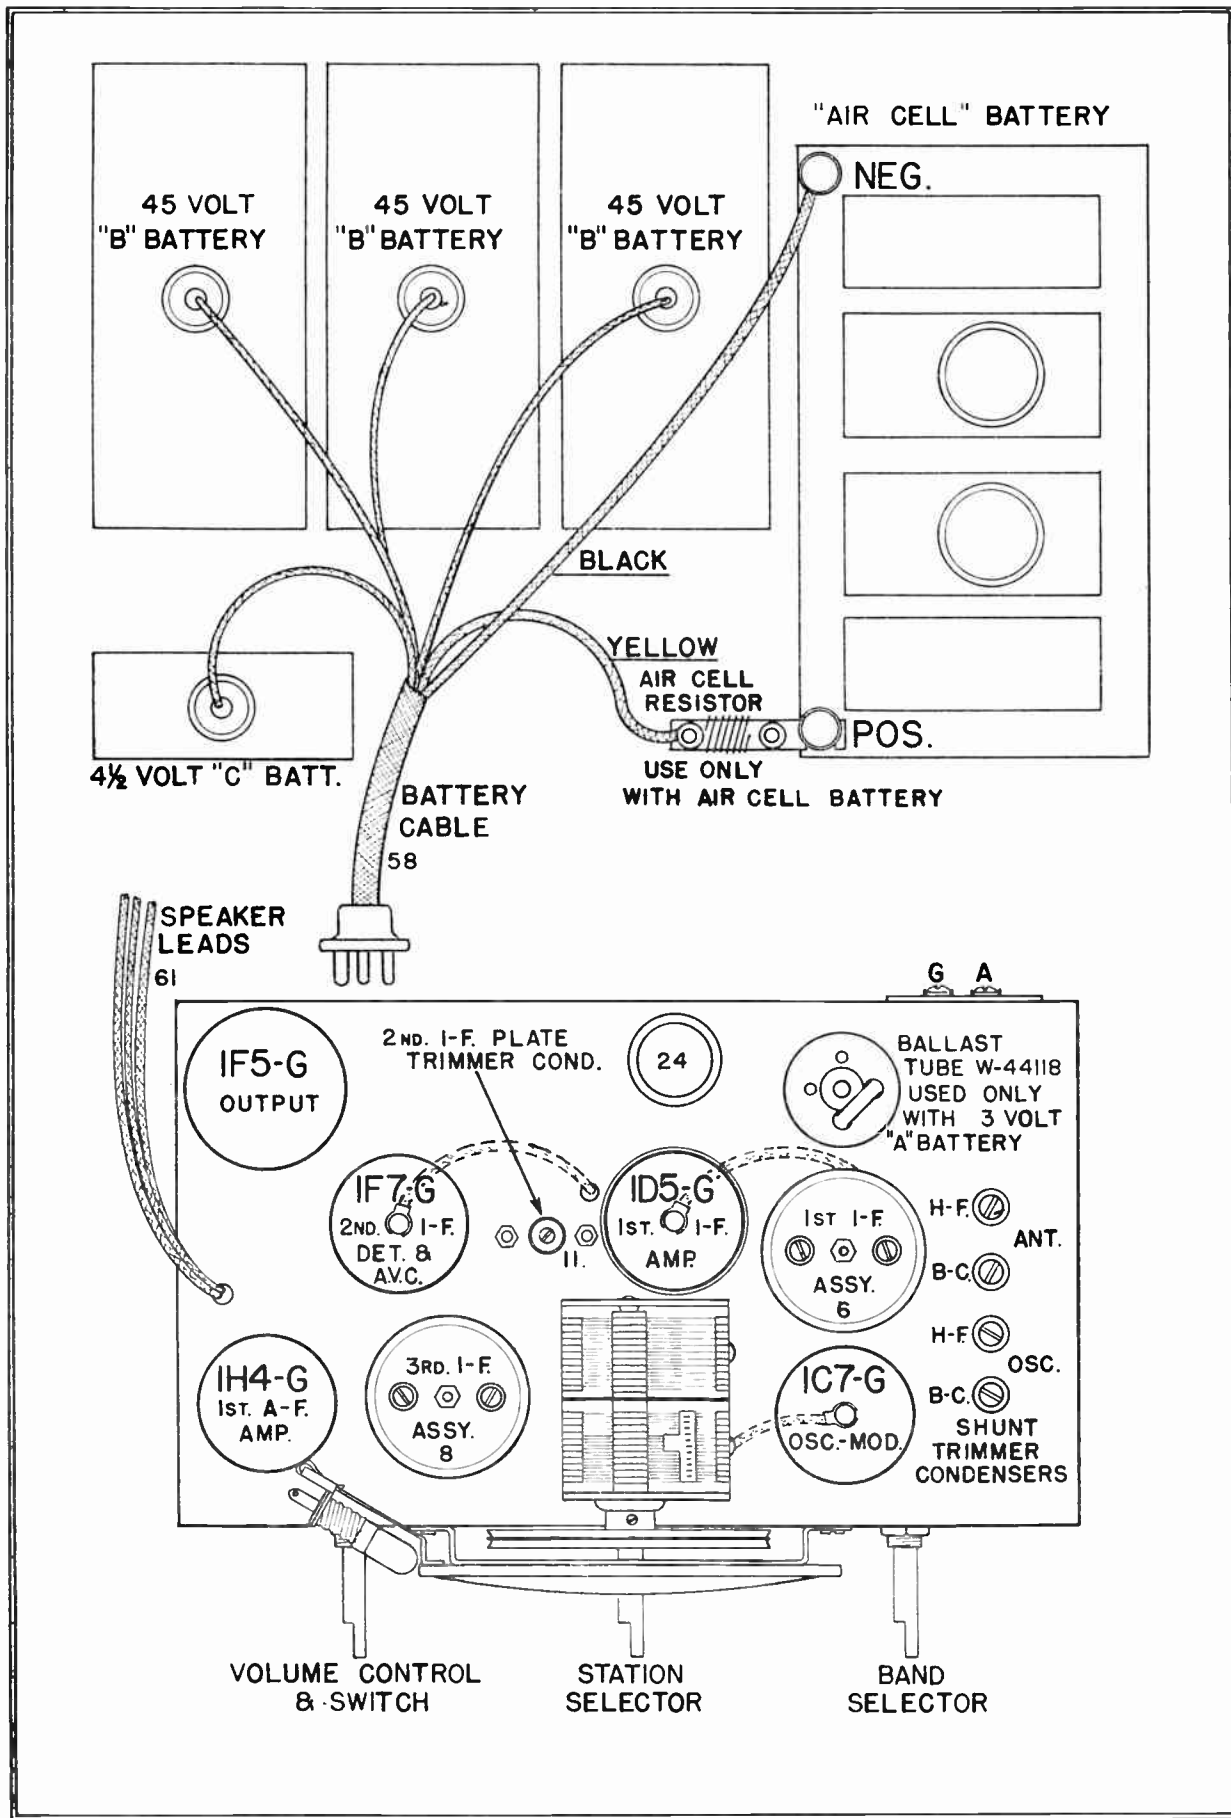

Fig. 2 Top View Model 557
(e) Adjust both trimmers located on top of the 3rd I-F assembly for maximum output. (See Fig. 2 item 8).
(f) Adjust the 2nd I-F trimmer condenser, Fig. 2 item 11, for maximum output.